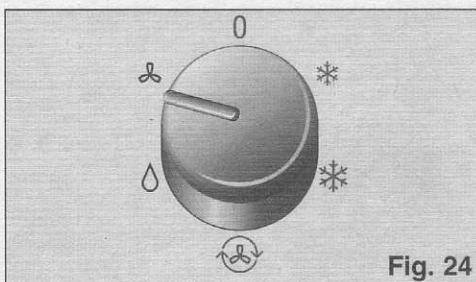

Fig. 24
- ❑ Set the control knob to the air-purification function 🌀 Fig. 24.